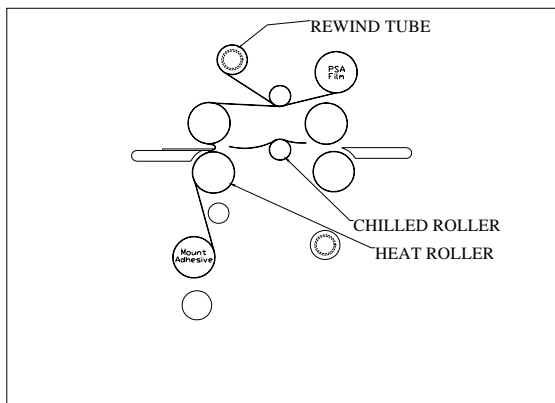

Figure 24
8. Pivot the table back to its feeding position while ensuring the threading card is on top of the feed table (Fig. 24).